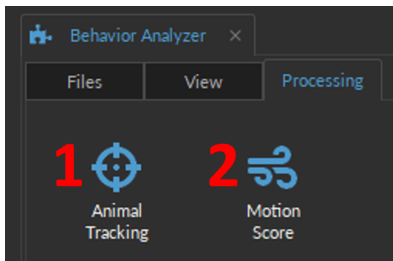

Figure 14.6: Behavior Analyzer, Processing tab
The **Processing** tab (Fig. 14.6) includes two behavior measurements, which will be treated in the following sections:
- *Animal Tracking* (Fig. 14.6, 1) - Section 14.3.1
- *Motion Score* (Fig. 14.6, 2) - Section 14.3.2